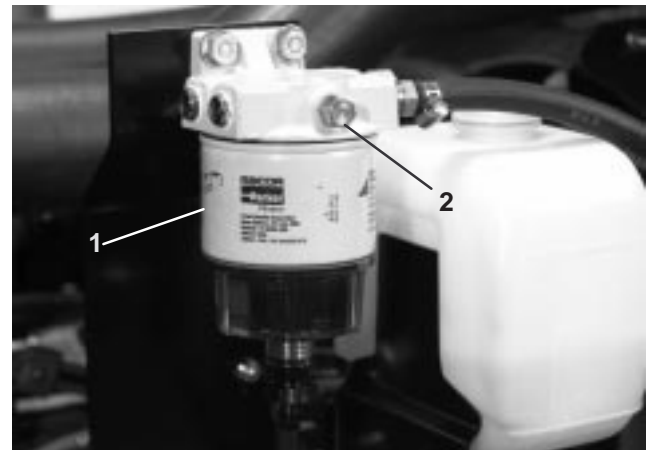

Figure 27
3. Open vent plug on the fuel filter/water separator (Fig. 27).